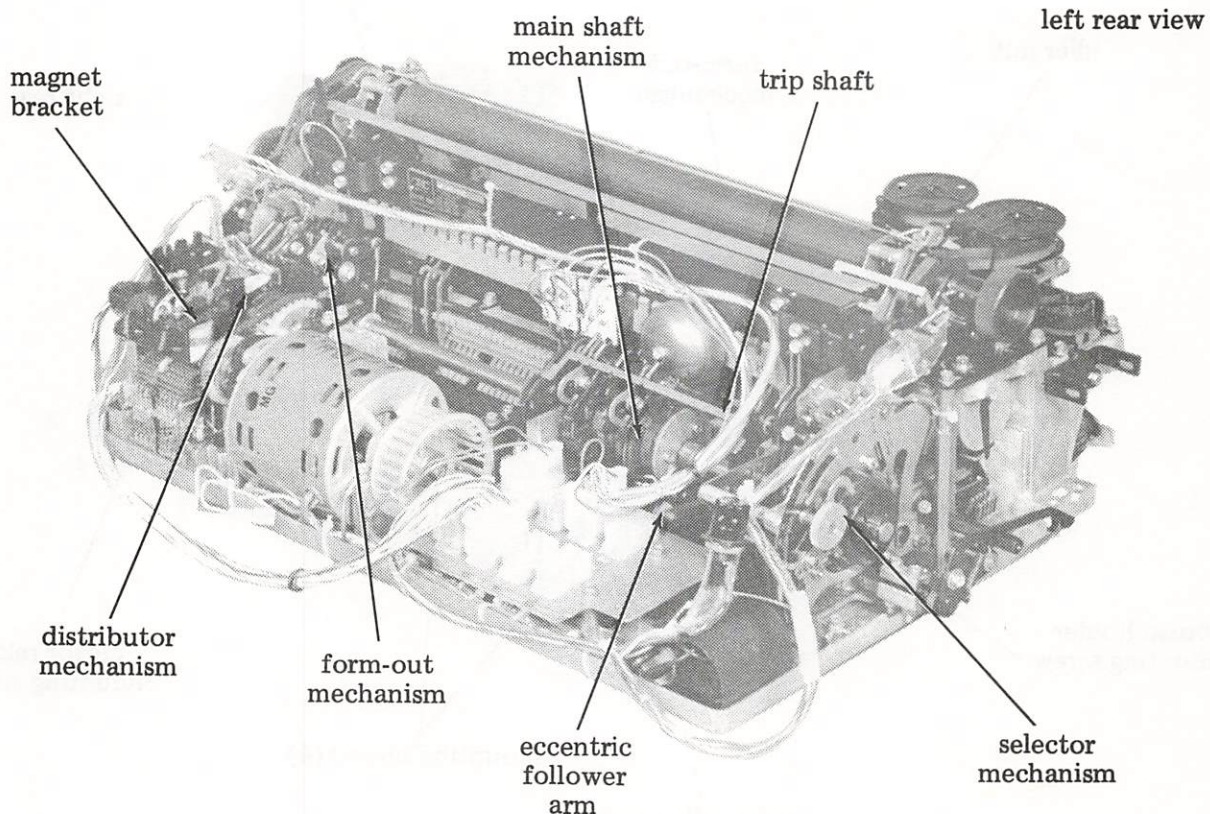

Figure 5 - Main Shaft and Distributor Mechanisms
- 2.17 Disassemble main shaft mechanism (Figure 5) as follows:
- 2.19 Disassemble distributor mechanism (Figure 5) as follows: